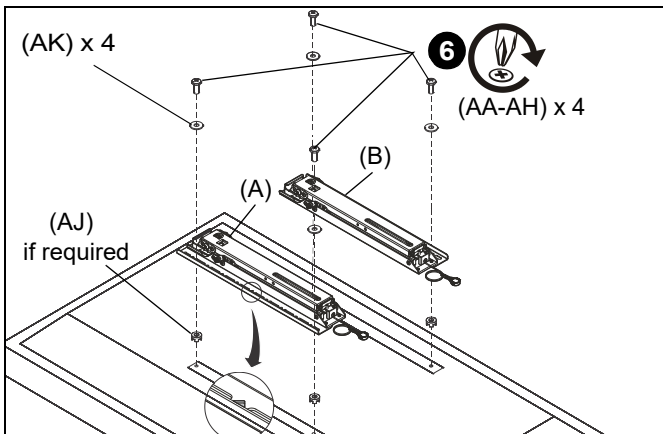

Figure 18
- Select screw *diameter* by examining hardware (AA-AH) and comparing with mounting holes on display. (See Figure 18)
**NOTE:** 3/16" washers (AK) can ONLY be used with M6 screws (AA-AC) as M8 screws (AD-AH) have too large of a diameter.
- Select screw *length*: (See Figure 18)
- By hand, insert **SHORTEST** length screw of selected diameter (AA-AH) through 3/8" washer (AK), bracket (A or B), nesting spacer (AJ, if required), into display mounting hole. Do NOT thread screw into hole at this time.
- Make sure diamond on interface brackets is even with center of display. (See Figure 18)
- Use selected screws (AA-AH), washers (AK) and spacers (AJ), if necessary, to connect interface brackets (A and B) to back of display. (See Figure 18)